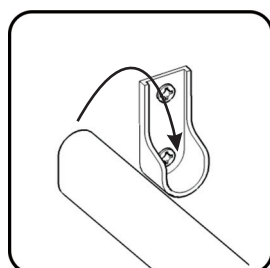

Figure 9
Place Rods (G) into position. (See Figure 9)